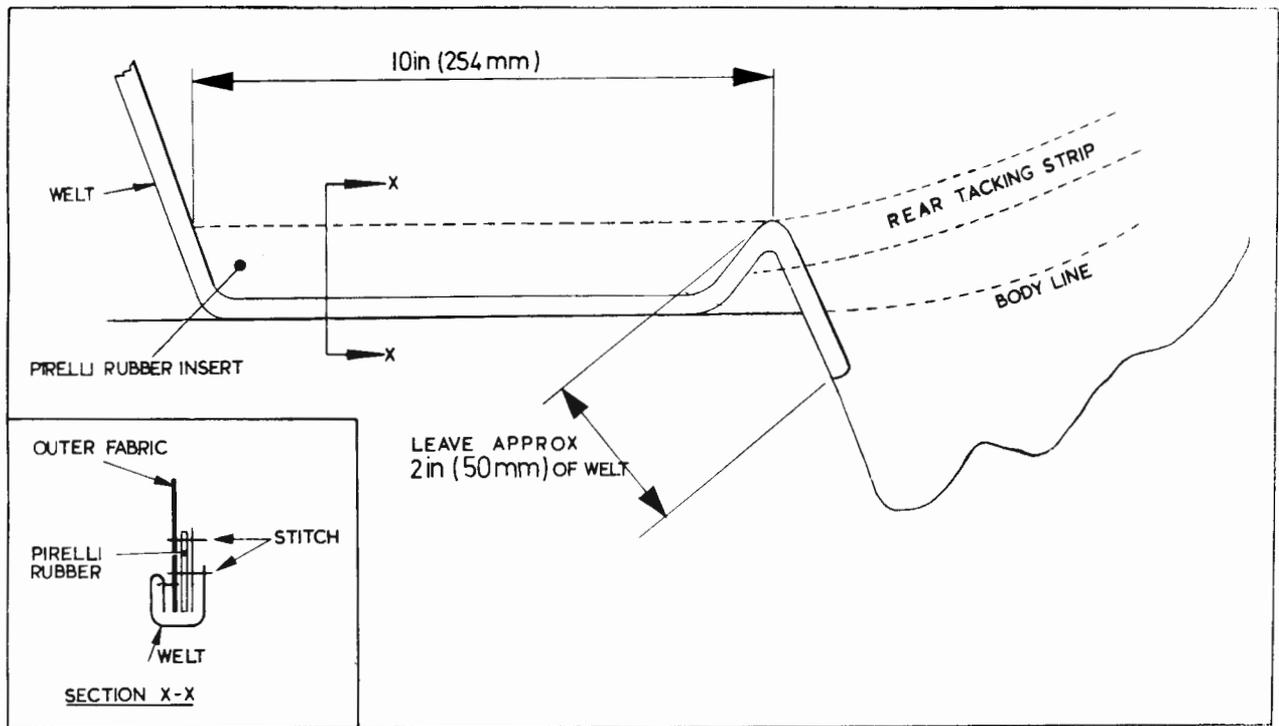

Fig. P5B Rear quarter detail - outer fabric.
7. Trim off at chalk line down to the rear quarter (see original roof for guide). Repeat the 'Welting' along the top of the droplight and down behind the quarter light using 3" (75mm) edging strip. Trim off edging strip only to top and bottom of rear quarter light (see original roof). Sew in pirelli stiffener at lower quarter. See fig. P5B.